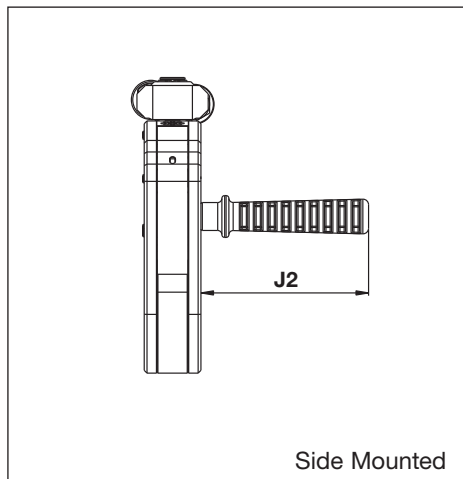

Fig. 25
6.1.4 Dimensions, SWH-Series Straight Positioning Handle (Fig. 25 and 26 - optional accessory)